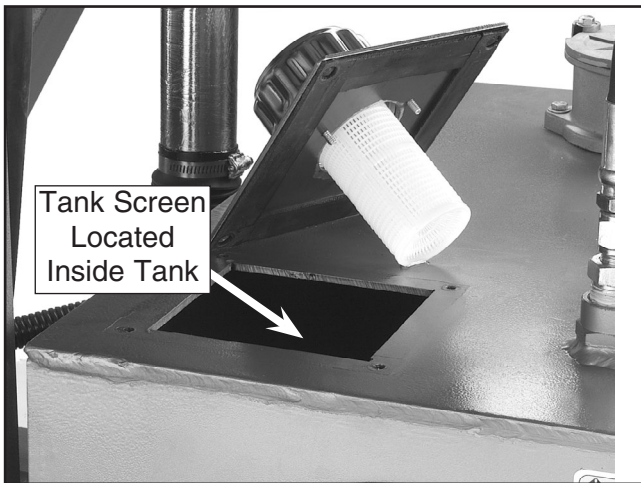

Figure 33. Access plate removed from tank.
1. Remove the access plate on top of the hydraulic tank as shown in **Figure 33**.